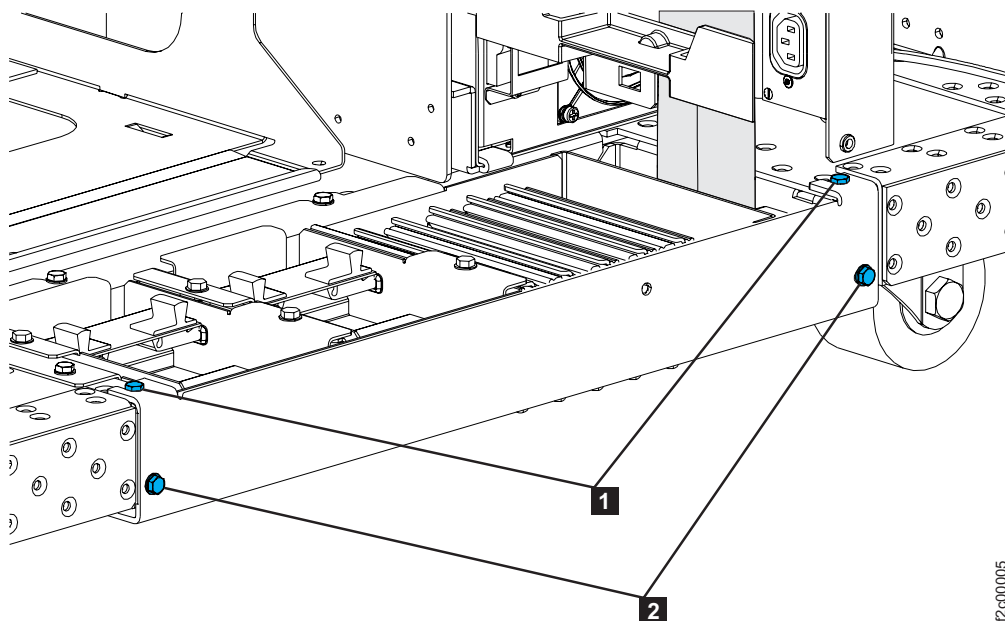

Figure 67. Tailgate frame bracket
4. Remove the tailgate frame bracket. Remove two screws **2** as shown in Figure 67 on page 82. Loosen but do not remove the two top screws **1**. Slide the bracket out.